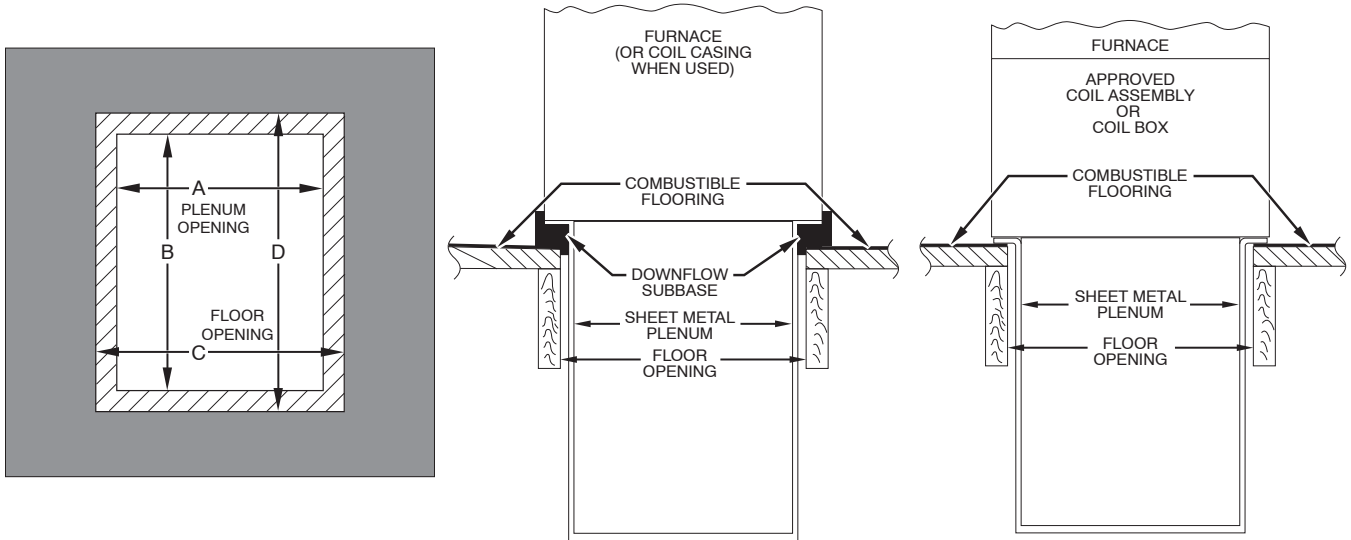

Fig. 1 - Installation on Combustible Flooring
1. Cut and frame hole in floor according to dimensions in Table 2 and Fig. 1.
6. Install factory-supplied strips of insulation on top and bottom sides of adjustable rails. (See Fig. 1.)
- e. Apply strips of insulation to adhesive tape. Insulation must be properly installed to ensure an adequate seal and prevent air leakage between floor and base, and base and plenum. (See Fig. 1.)